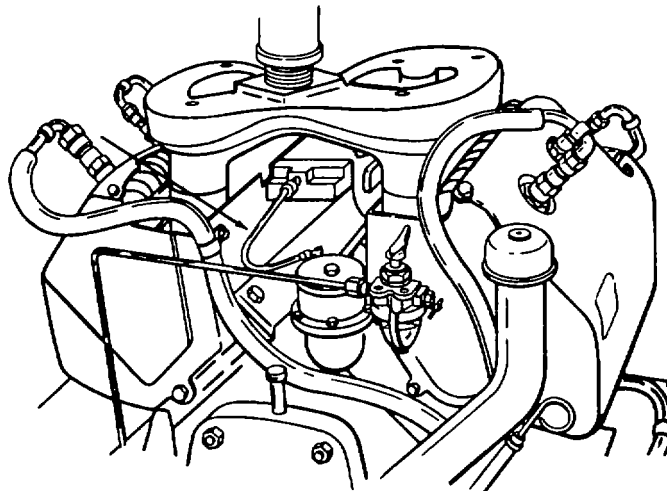

Figure 6-3. Fuel Line at Fuel Pump
- (3) Disconnect fuel line at fuel pump. (Figure 6-3)